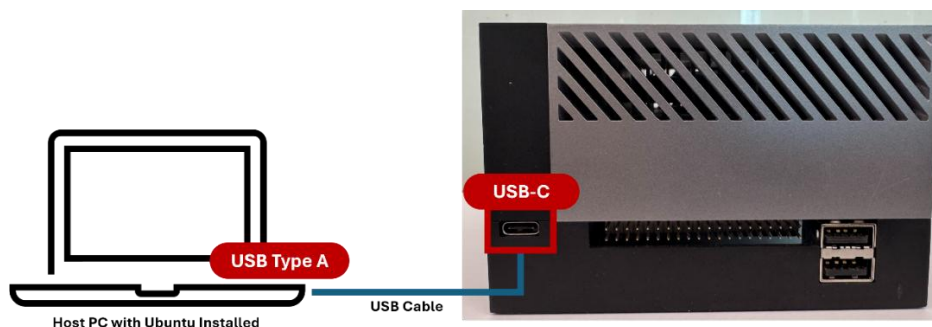

Figure 6.3. Ubuntu Host PC and Jetson AGX Orin Developer Kit Setup
1. Set up an Ubuntu 22.04 host PC with at least 8 GB of RAM and an internet connection. Connect the Ubuntu host to the Jetson AGX Orin using a USB cable as shown in Figure 6.3.